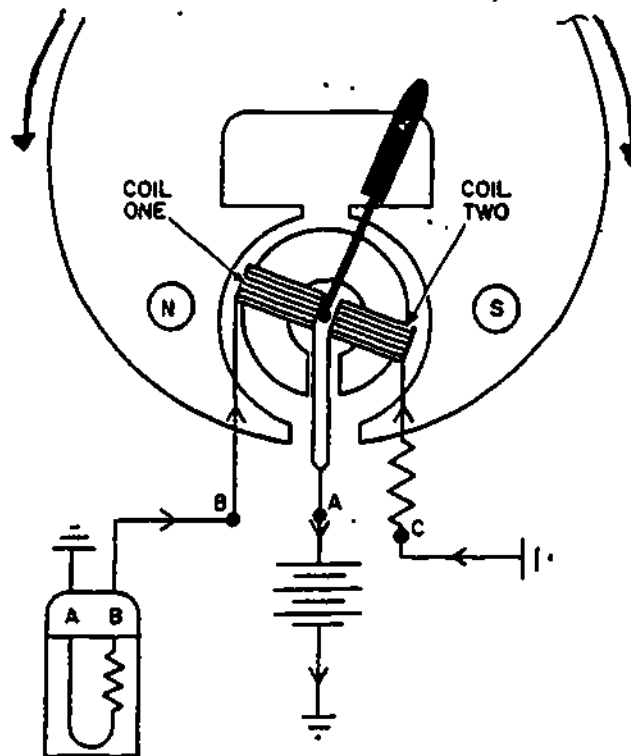

Figure 12.
Refer to figure 12 and circle the letter of the response to the following statement(s).
1. The current flow through the coils in figure 12 is